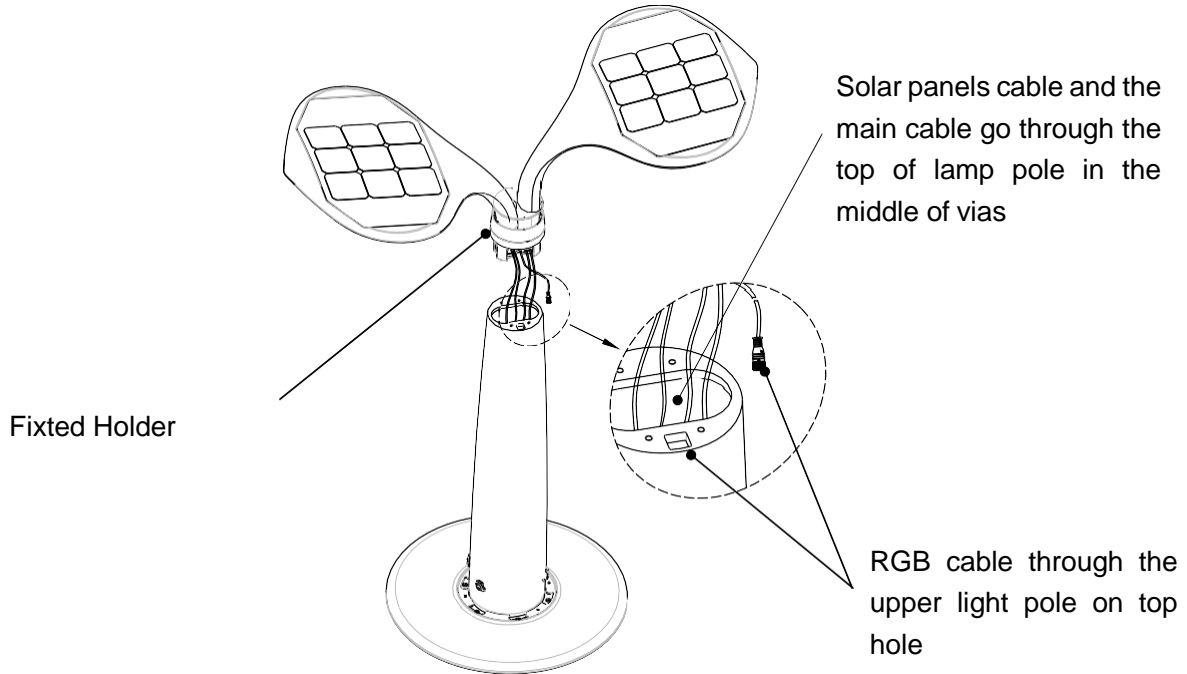
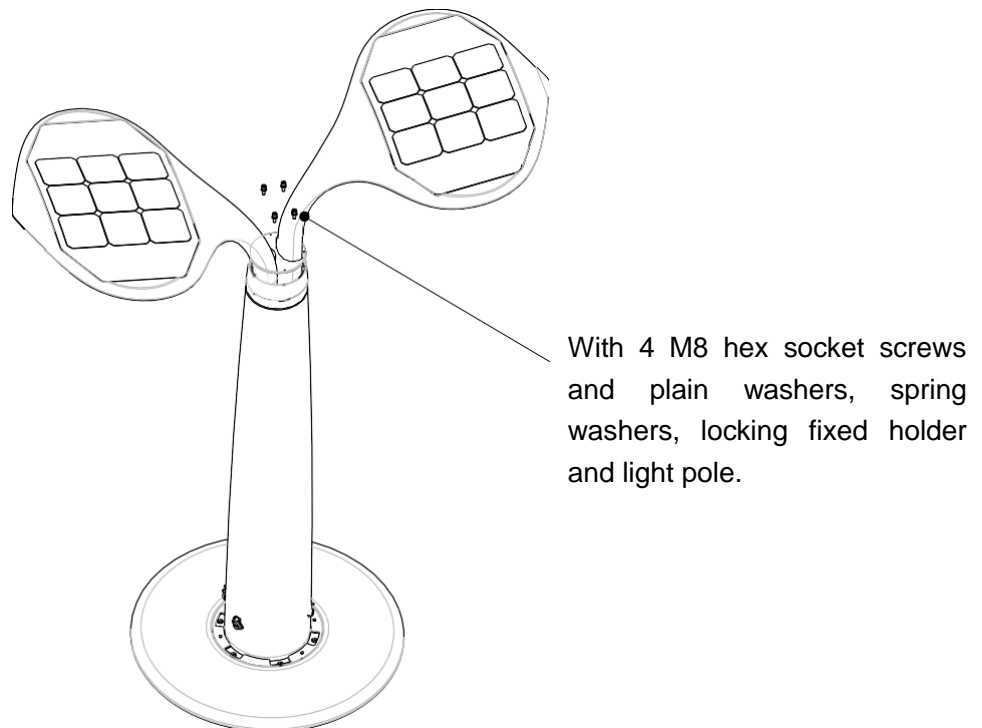

Figure 5
Figure 6
- ① Solar panel wiring and lamp wiring and RGB wiring, as shown in Figure 5 through the hole on top of the poles. The lamp fixture assembly shown in Figure 6 then attached to the poles.